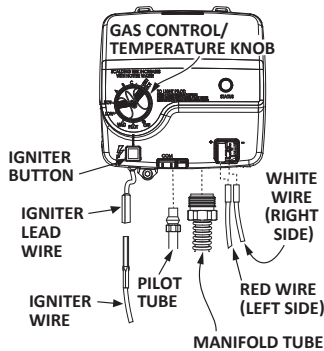
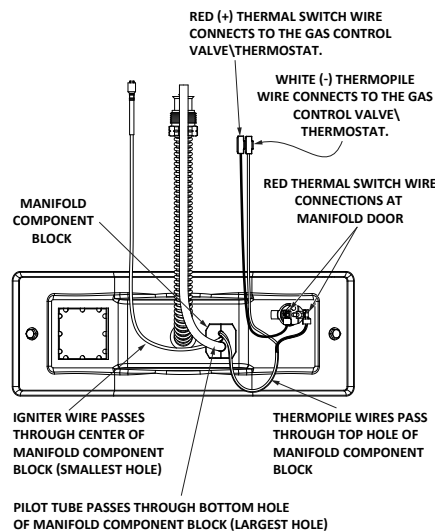

Figure 15.
Figure 21.
5. Disconnect the following from the gas control valve/thermostat: pilot tube (7/16" wrench), igniter wire (from the igniter lead wire), and manifold tube (3/4" wrench). See Figure 15.
6. Disconnect the white and red wires from the gas control valve/thermostat (Figure 15). Use needle nose pliers to grip the connector(s). **IMPORTANT:** Grip the connector carefully to prevent damage. Do not grip or pull the wires themselves.
4. Reinstall the manifold component block in the manifold door. Ensure that the pilot tube and wires are positioned as shown in Figure 21.
6. Reconnect the manifold tube (3/4" wrench) and pilot tube (7/16" wrench) to the gas control valve/thermostat. See Figure 15 on page 17. Do not cross-thread or apply any thread sealant to the fittings.
7. Connect the white and red wires to the gas control valve/thermostat as shown in Figure 15, page 17. Also, ensure that the red thermal switch wires are connected to the thermal switch (TCO switch) on the manifold door. See Figure 21 on page 18.
8. Reconnect the igniter wire. (Figure 15, page 17).
4. Disconnect the igniter wire from the igniter lead wire. Use needle nose pliers to disconnect the red (+) and white (-) thermopile wires. Disconnect the pilot tube (7/16” wrench) and manifold tube (3/4” wrench) at the gas control valve/thermostat. See Figure 15 on page 17.